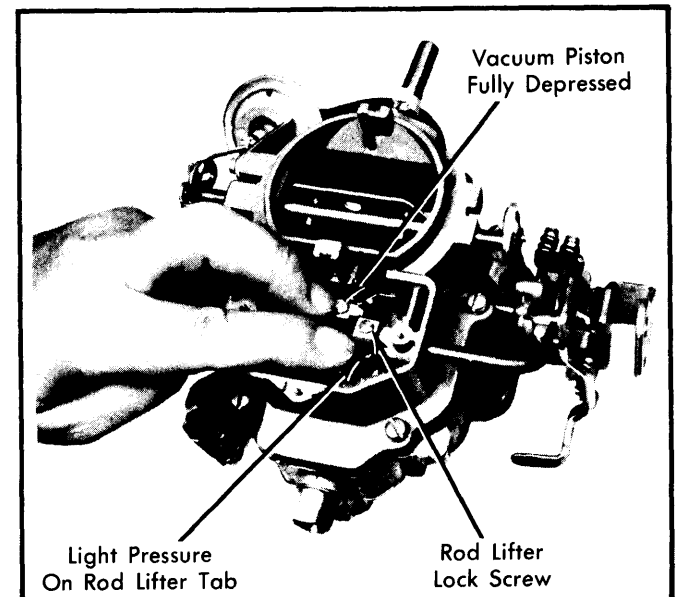

Fig. 2 Vacuum Step-Up Piston Gap Qualification
1) Remove step-up piston cover plate and gasket. Remove lifter lock screw and remove piston. See Fig. 2.